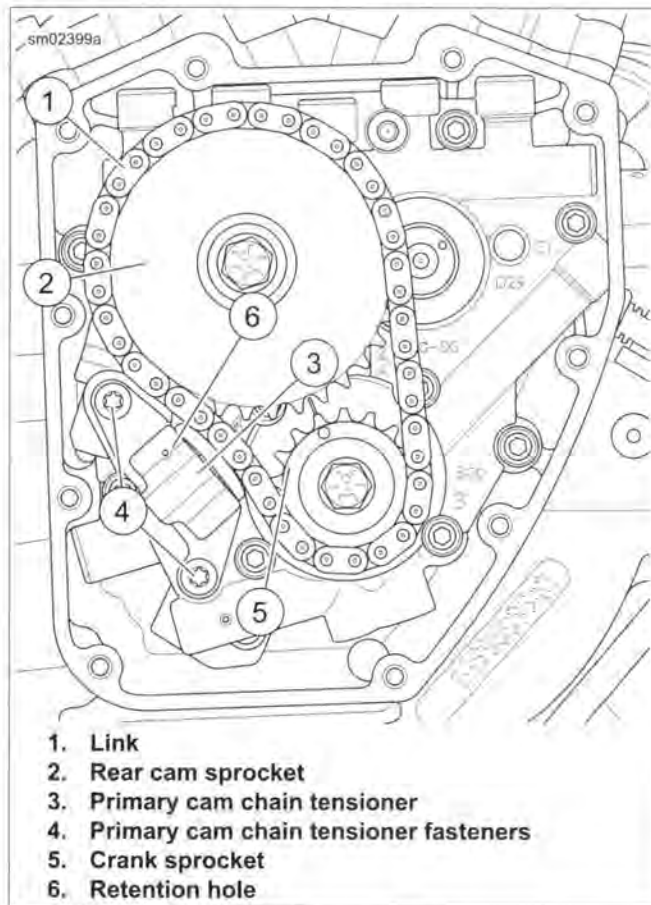

Figure 3-80. Cam Support Plate Assembly
1. See Figure 3-80. Using a colored marker, mark one of the links (1) of the primary cam chain to identify the visible side. Maintaining the original direction of rotation during assembly may prolong service life.